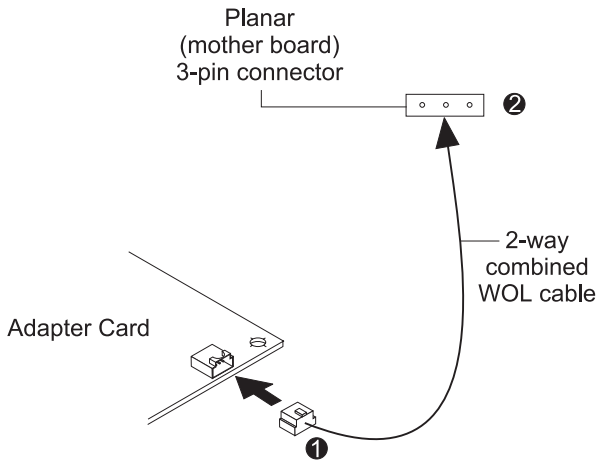

Figure 2-3. Connecting the Combined Signal and Power Cable to Your PC
- A 2-way combined Wake on LAN signal and power cable (IBM PN 08L2559) as shown in Figure 2-3 on page 2-5, to be used between the adapter and PC model that has a combined signal
1 Connect one end of the 2-way combined Wake on LAN cable to the Wake on LAN 3-pin connector on the adapter as shown in Figure 2-3 on page 2-5.